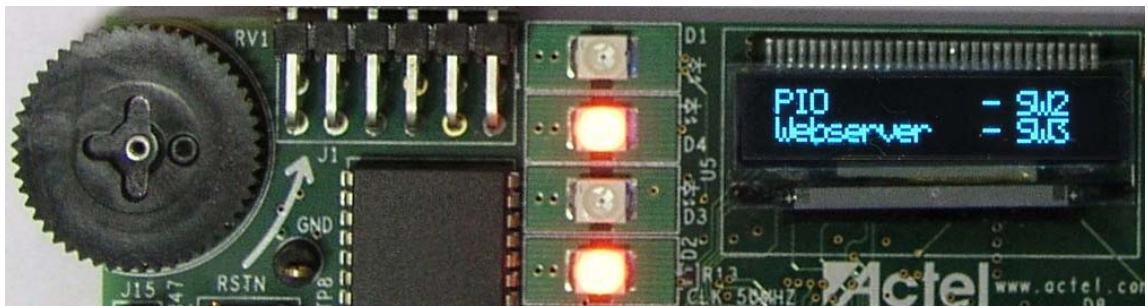

Figure 2-1 · Mode Selection
1. Download the programming file from www.actel.com/download/rsc/?f=M1AFS_EMBEDDED_KIT_PF. After programming, remove FlashPro and power up the board again. The board boots up with the design and you will see the default message on the OLED (Figure 2-1).